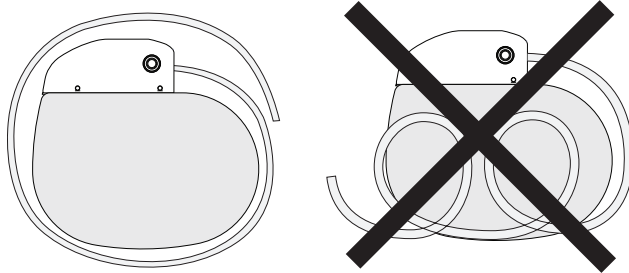

Figure 3. *Wrap excess extension around the perimeter of the neurostimulator.*
- Do not coil excess extension in front of the neurostimulator. Wrap excess extension or leads around the perimeter (Figure 3) or behind the neurostimulator to help minimize potential damage during neurostimulator replacement surgery, help minimize potential kinking of the extension or lead, and minimize interference with telemetry and recharge operation.